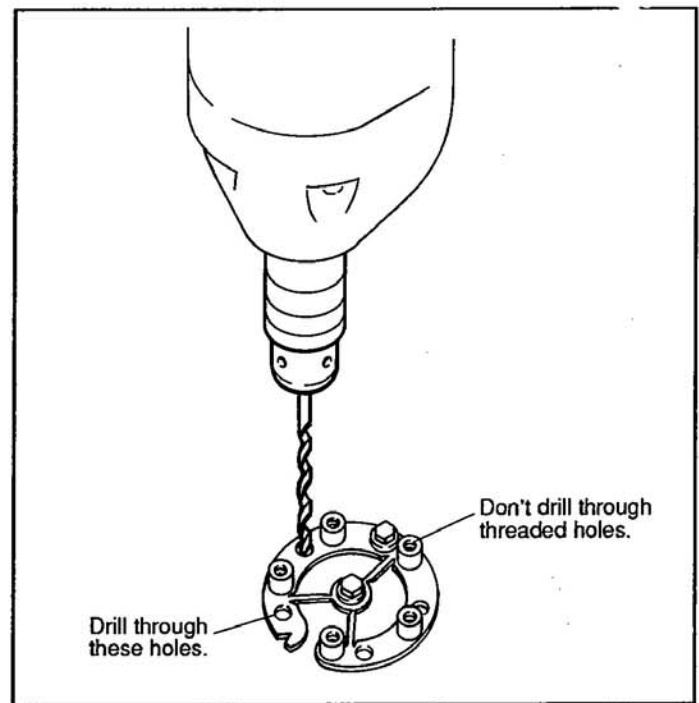

Fig. 4
- Drill  $7/32$ " holes through the tank at the four remaining unthreaded hole locations on the backing plate, as shown in Fig. 4.